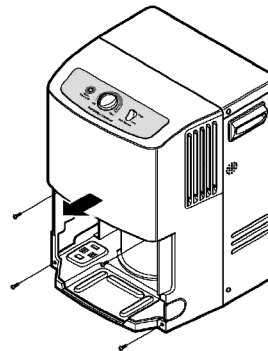

Figure 11
2. Pull the front case from the bottom and lift up. (See Figure 11)